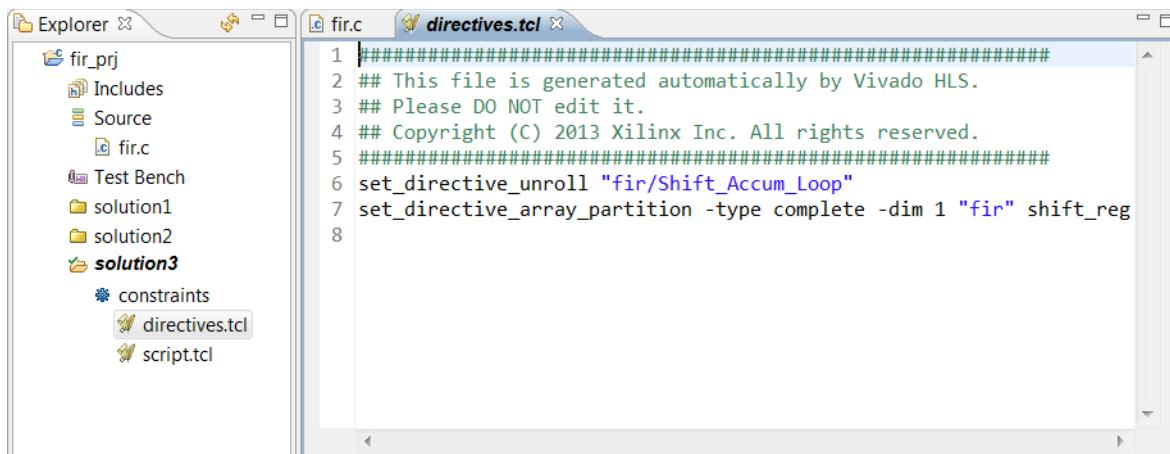

Figure 2-29: **Solution4 Directives.tcl File**
10. In the Explorer pane, expand the **Constraint** folder in Solution3 as shown in Figure 2-29.